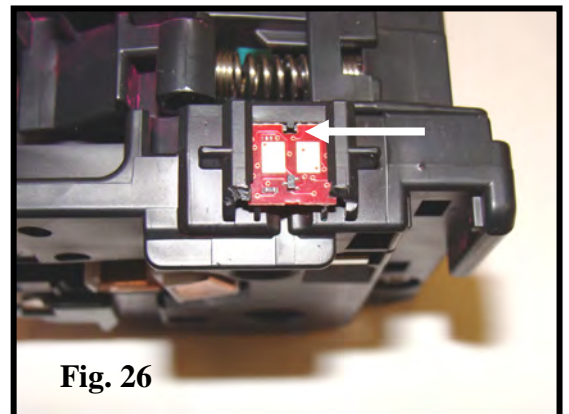

Fig. 26
26. Insert the correct new color chip. Insert the chip so that the square notch in the center of the chip aligns with the plastic post in the chip housing (Fig. 26). Secure the chip with a small amount of adhesive on the ends that were removed on the chip housing.